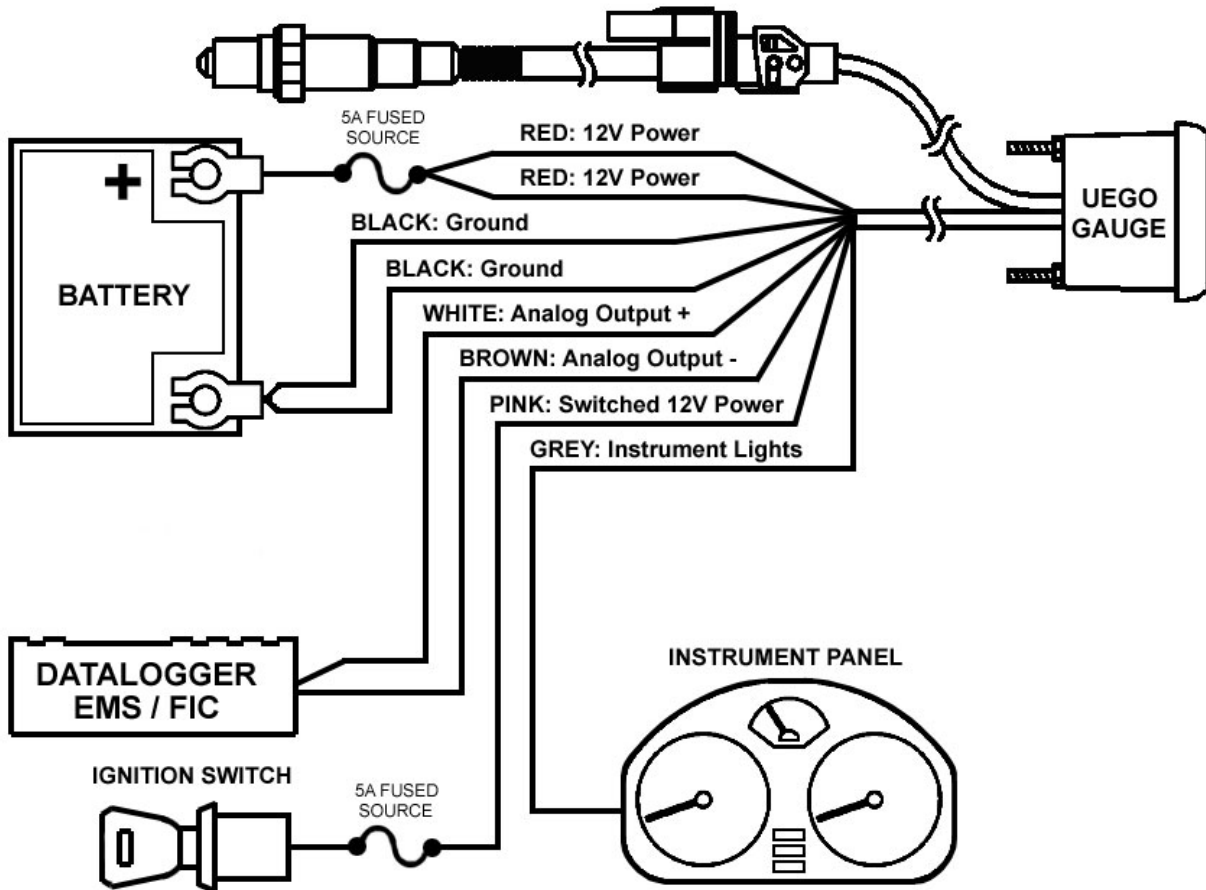

Figure 1. Wiring Schematic
3. Plug the 8-wire power harness into the mating connector on the back of the gauge and connect the wires as shown in Figure 1. Note: the locating tabs on the side of the connector should be nearest the center of the gauge.